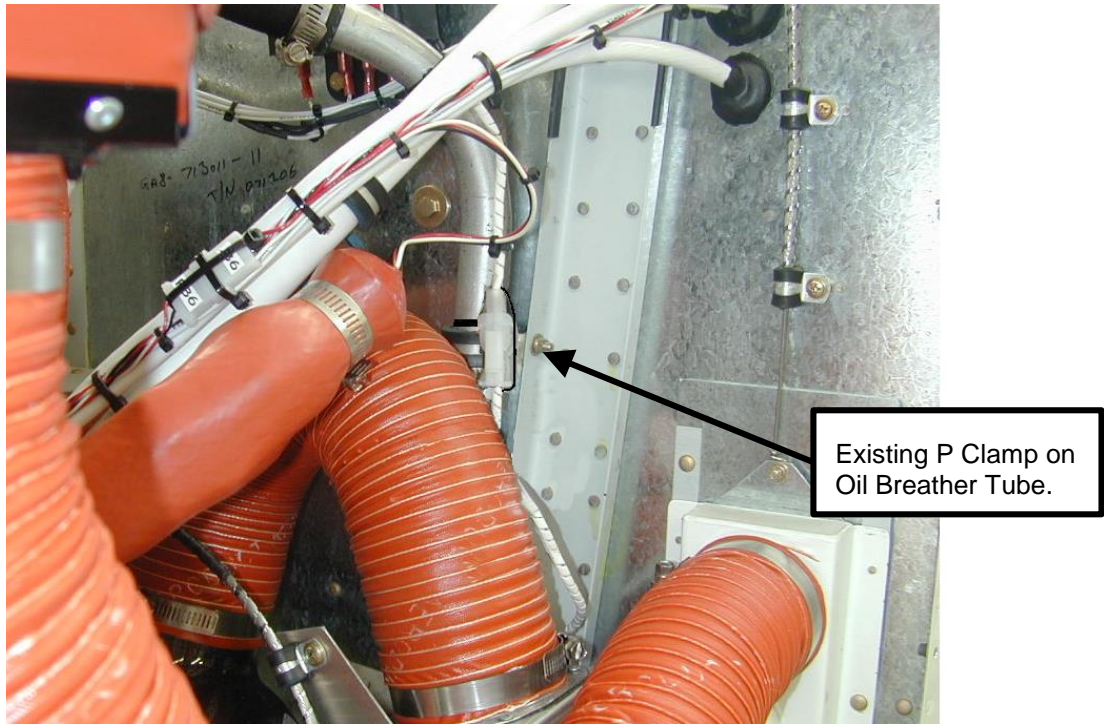
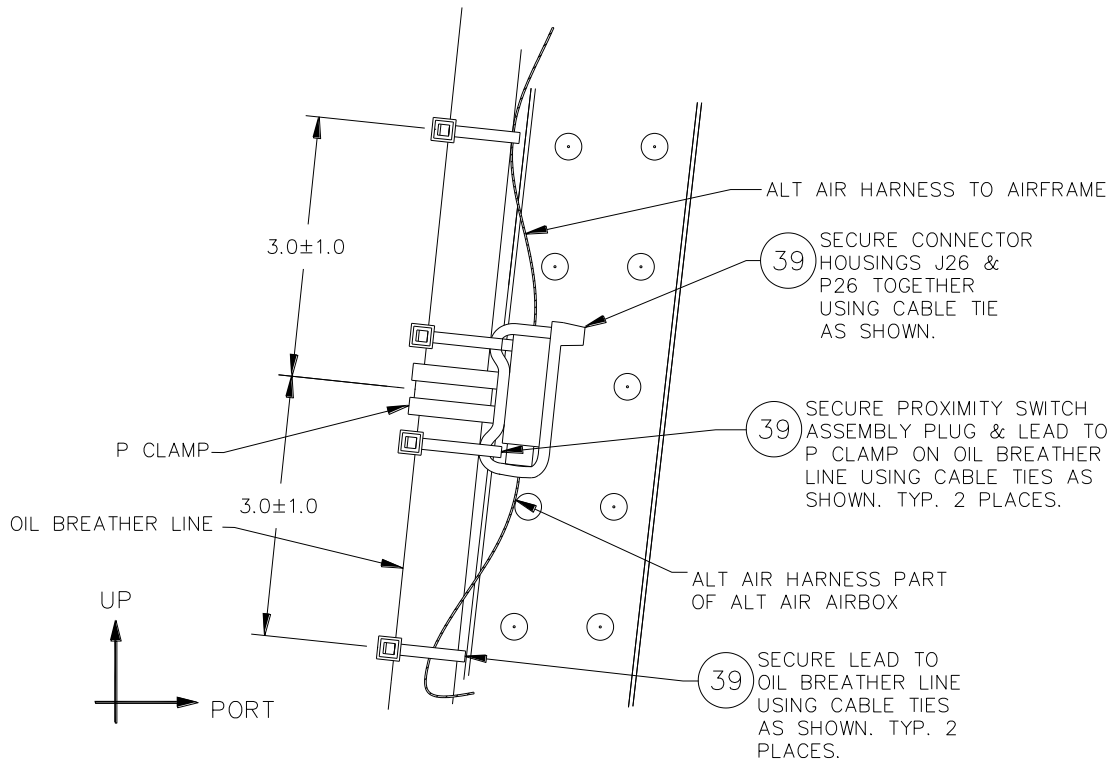

Figure 1: Modified configuration. Additional cable ties are not shown.
Figure 2: Detailed View of the attachment of the P26/J26 Electrical Connector (Looking Aft onto Firewall).
5. Secure harness connector to P Clamp / Oil Breather Tube as identified in Figure 1. Restrain with Item 1 per Figure 2. Trim all cable tie tails flush.